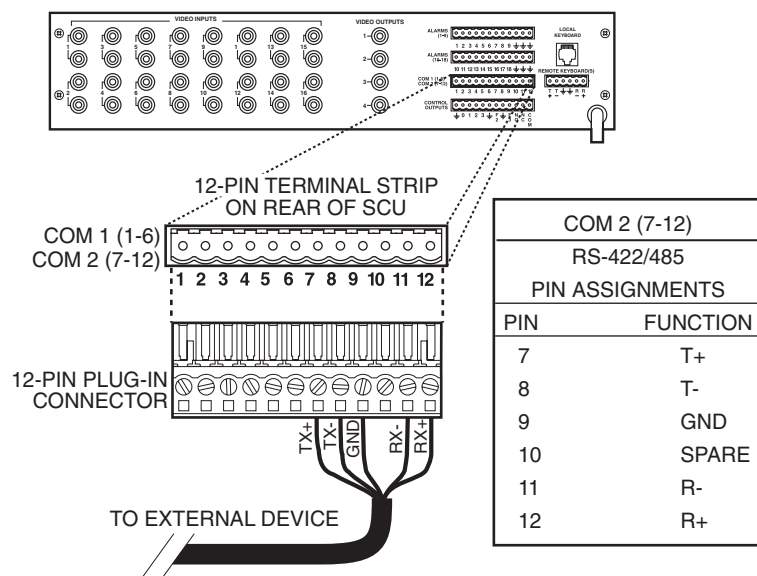

Figure 18. Connecting an RS-422/485 Interface
- If you require an RS-422/485 port interface, connect wires from the RS-422 device to the COM 2 terminals at the back of the SCU. Refer to Figure 18.